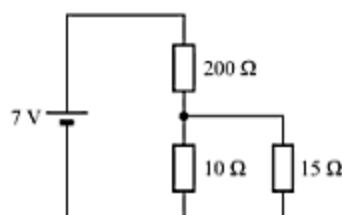

Fig. 2.38
12. Determine the current in 15-kΩ resistance in the circuit shown in Fig. 2.38.